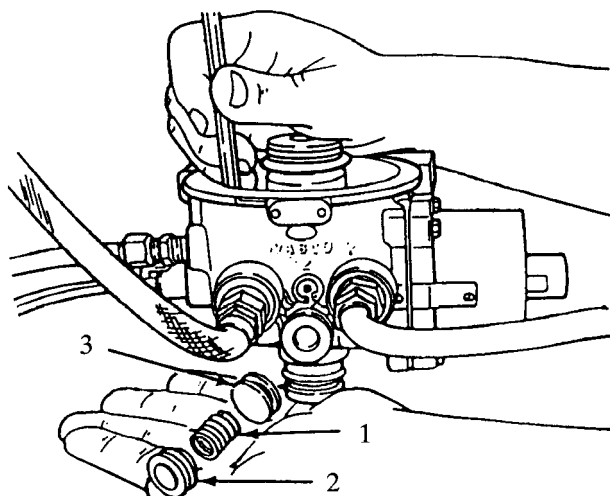

Figure 77 Turbo Cut-Off Valve
4. Turbo Cut-Off Valve (Figure 77).